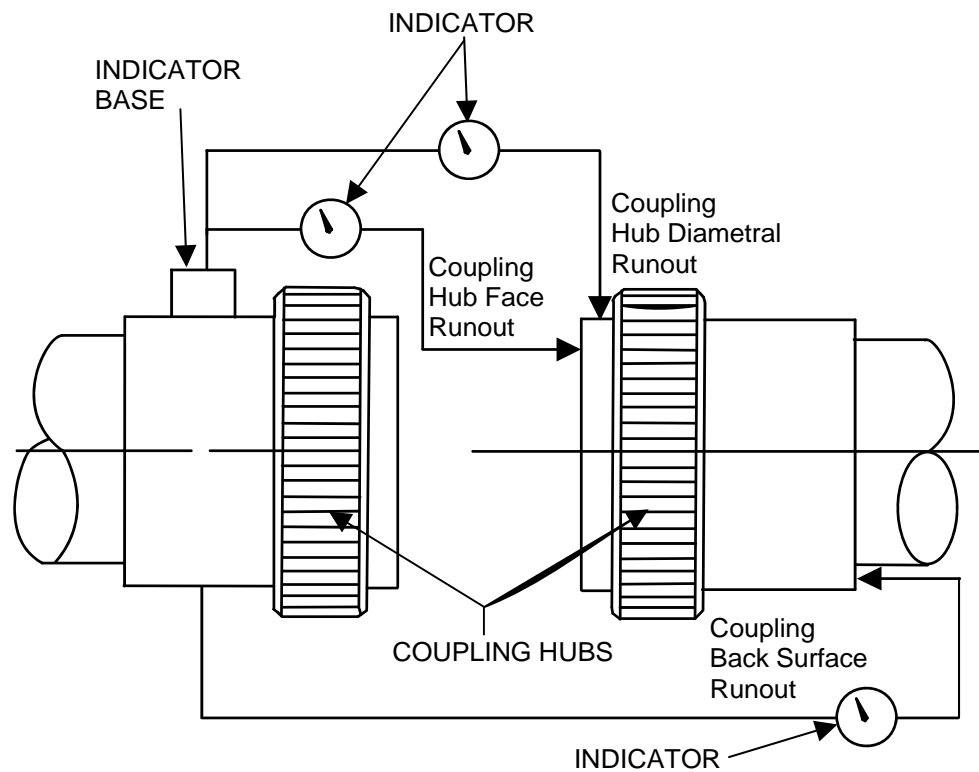

Figure C-10 Alignment Using Dial Indicators
1. Install dial indicator (refer to Figure C-10, *Alignment Using Dial Indicators*) to read a point nearest to the outside circumference on the face of one hub.
3. Re-position the dial indicator to read on the external outside diameter of the same hub as in step 1 and measure coupling hub diametral runout, as shown in Figure C-10, *Alignment Using Dial Indicators*.
- a. Clamp a dial indicator to one coupling hub and place the finger (contact point) against the finished face of the other hub, as shown in Figure C-10, *Alignment Using Dial Indicators*.
2. Use a dial indicator mounted on a flexible arm to measure runout on the back surface of the coupling hub, as shown in Figure C-10, *Alignment Using Dial Indicators*.
- b. Mount the dial indicator on one of the coupling hubs and position the indicator finger on the rim of the opposite coupling hub, as shown in Figure C-10, *Alignment Using Dial Indicators*.